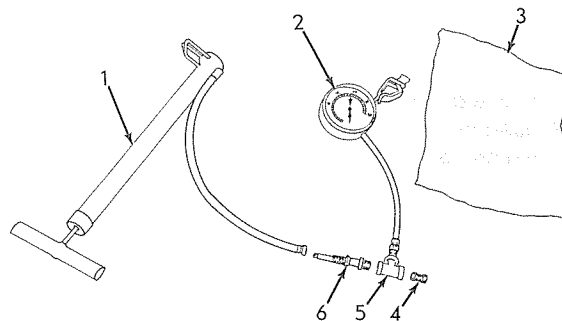

Fig. 5 — Equipment Required to Pressure Test Air Intake System
1. The following equipment is required to pressure test the air intake system (refer to Fig. 5).
- a. Air tight rubberized or plastic material (3) to cover intake face of air cleaner or, on earlier model units, air cleaner intake pipe.
- b. Tire pump (1) or low pressure air supply (preferably equipped with a regulating valve).
- c. Pressure gauge (2) (that will read accurately at 5 psi).
- d. 1/4" pipe nipple (4).
- e. 1/4" pipe tee (5).
- f. Valve stem with 1/4" pipe plug (6) (not required if low pressure air supply with regulating valve is used).
- e. Remove 1/4" pipe plug from air intake elbow and install the 1/4" pipe nipple (Fig. 5) (4) and tee (5) in the opening. Install pressure gauge (2) in one opening in the tee and the 1/4" pipe plug with valve stem (6) in the other opening.